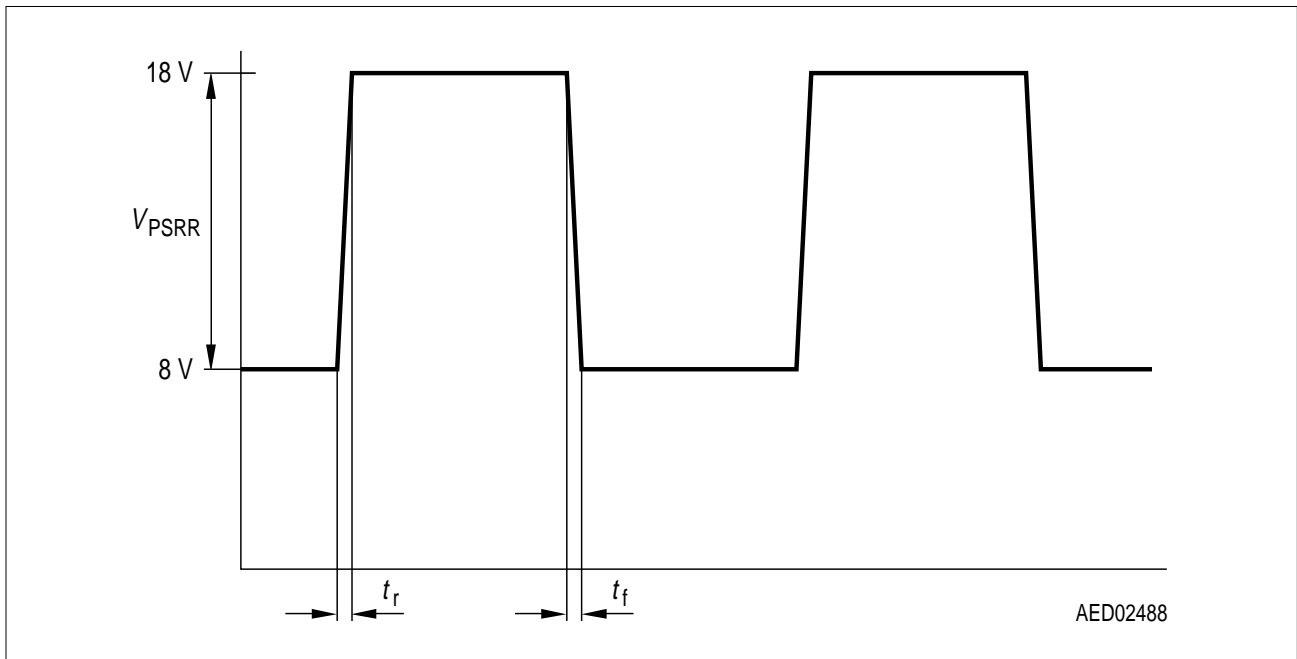

Figure 5
7) For definition see **Figure 5**.